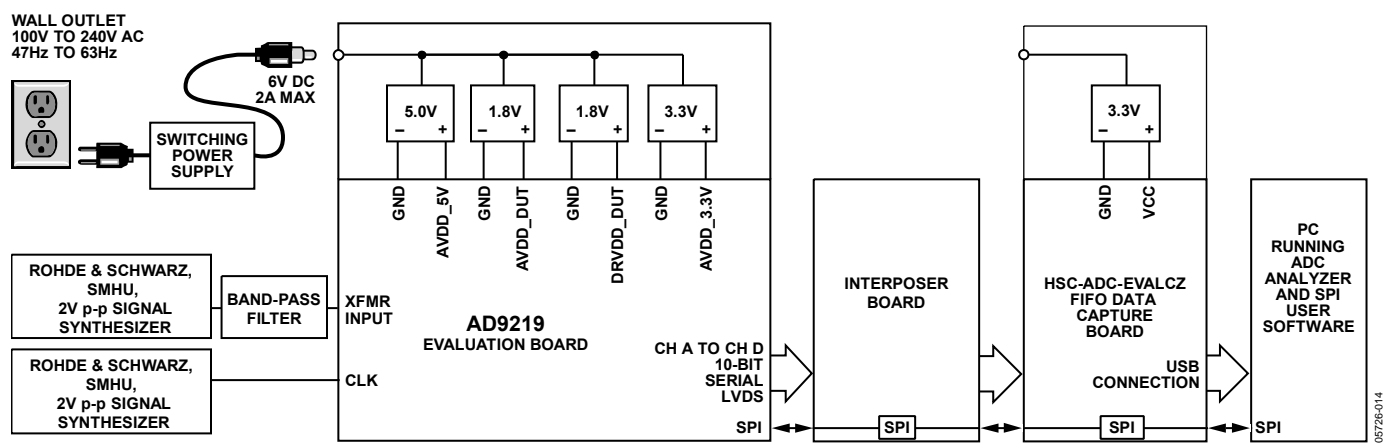
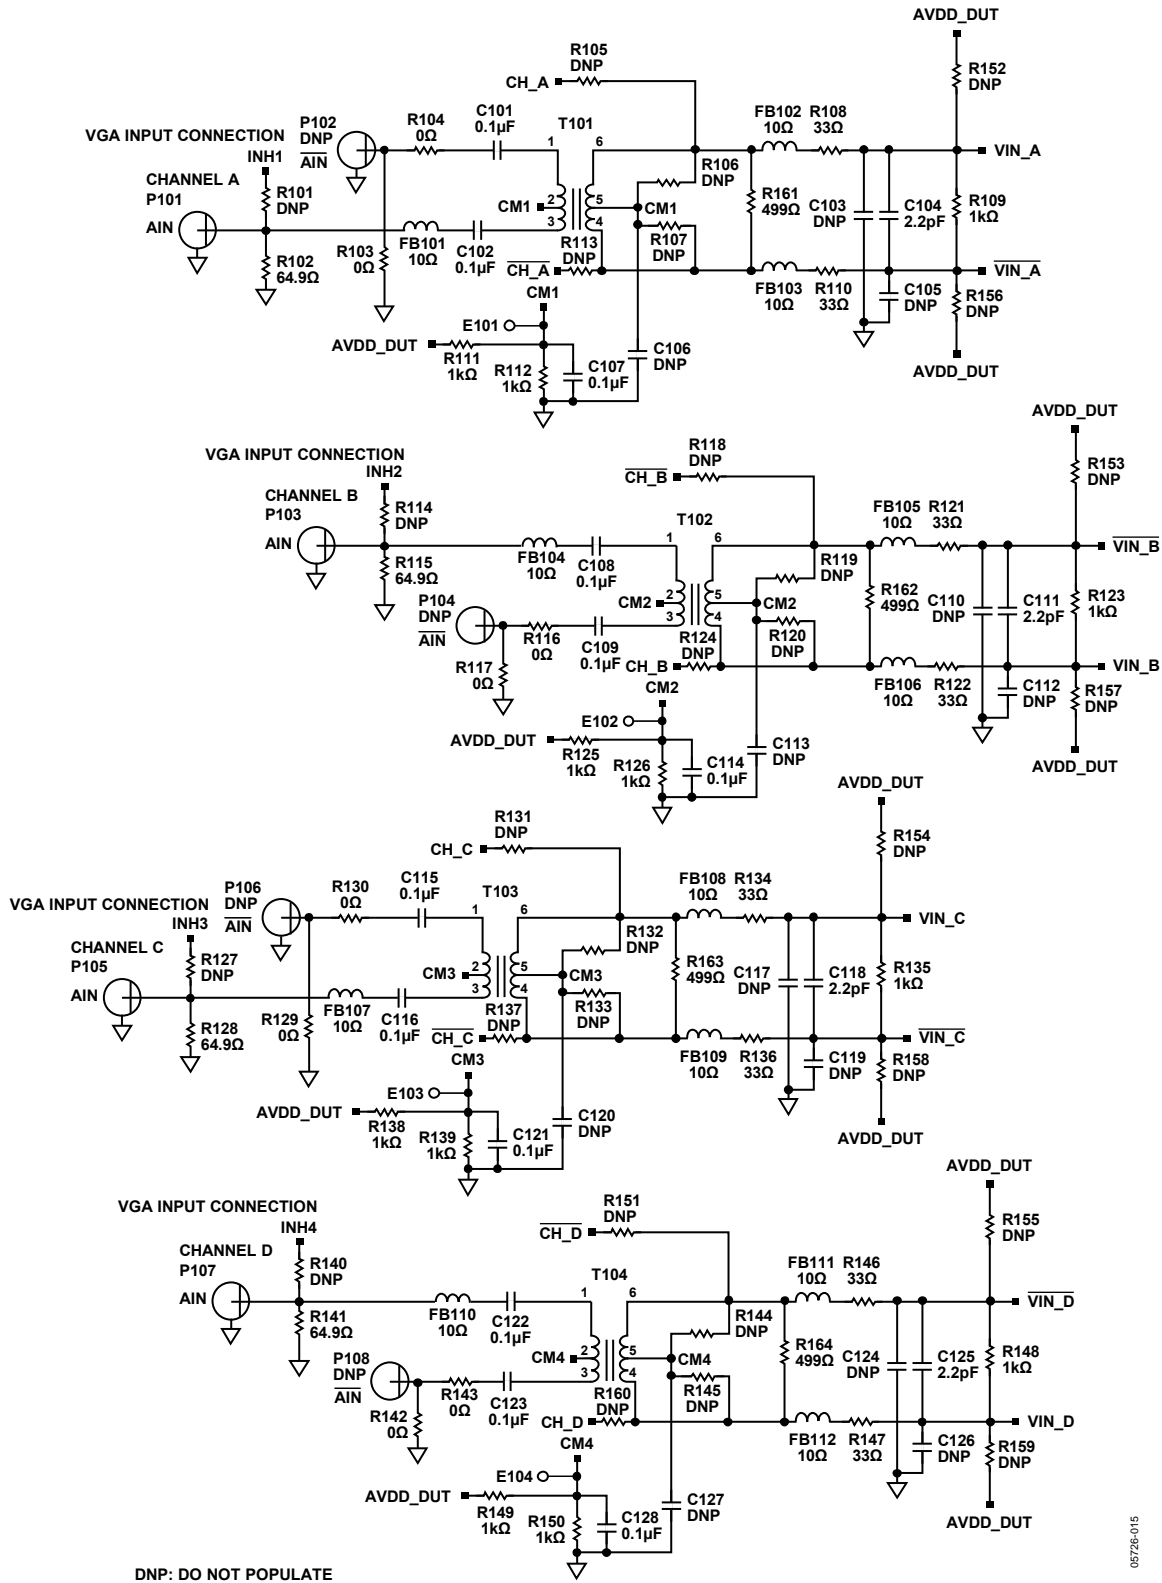

Figure 71. Evaluation Board Connection
Figure 73. Evaluation Board Schematic, DUT Analog Inputs
The AD9219 evaluation board provides all of the support circuitry required to operate the ADC in its various modes and configurations. The converter can be driven differentially using a transformer (default) or an AD8332 driver. The ADC can also be driven in a single-ended fashion. Separate power pins are provided to isolate the DUT from the drive circuitry of the AD8332. Each input configuration can be selected by changing the connection of various jumpers (see Figure 73 to Figure 77). Figure 71 shows the typical bench characterization setup used to evaluate the ac performance of the AD9219. It is critical that the signal sources used for the analog input and clock have very low phase noise (<1 ps rms jitter) to realize the optimum performance of the converter. Proper filtering of the analog input signal to remove harmonics and lower the integrated or broadband noise at the input is also necessary to achieve the specified noise performance.
See Figure 73 to Figure 81 for the complete schematics and layout diagrams demonstrating the routing and grounding techniques that should be applied at the system level.
- **D + x, D - x:** If an alternative data capture method to the setup shown in Figure 73 is used, optional receiver terminations, R206 to R211, can be installed next to the high speed back-plane connector.